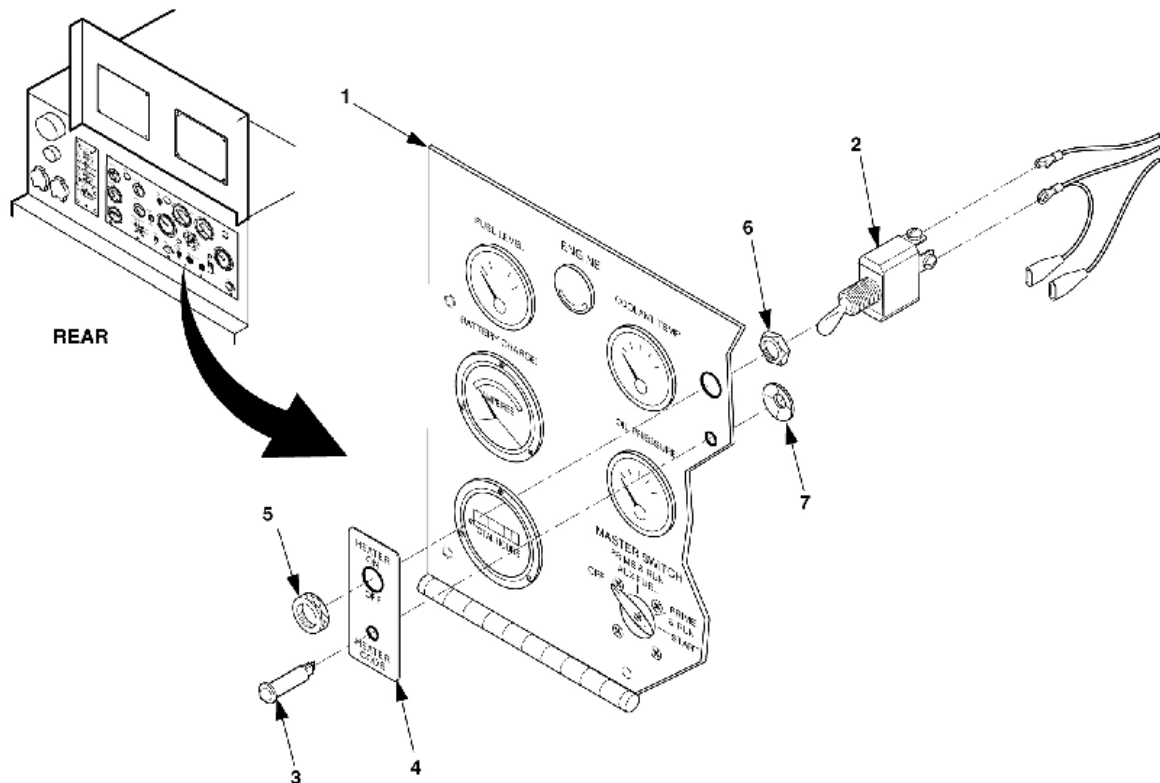

Figure 4-24. Plate, Operation and Heater Switch Maintenance.
1. Disconnect lead from terminal of switch (2), Figure 4-24, and use multimeter to measure for continuity across switch terminals with switch in on position. With switch in off position, there should be an open circuit.